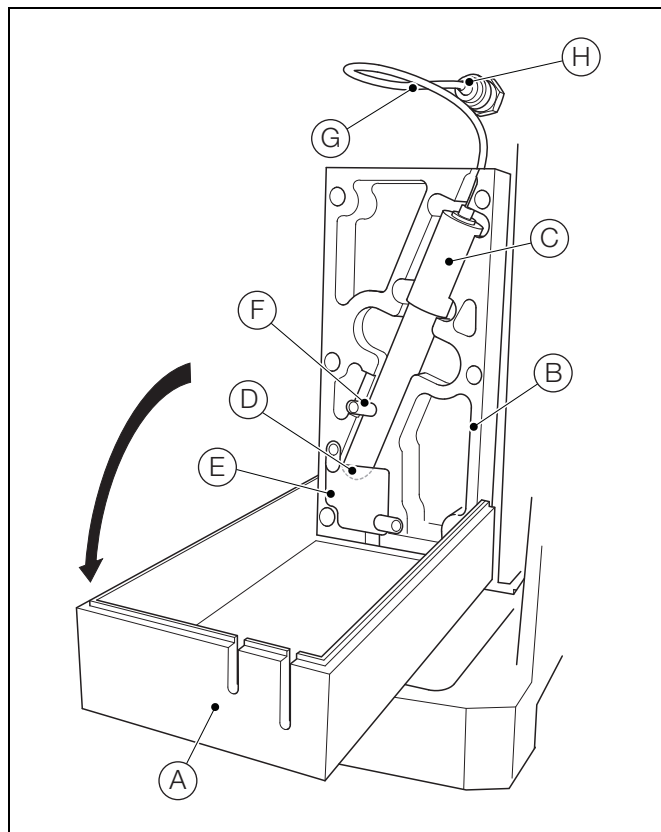

Fig. 3.13 Fitting Ammonia / Fluoride Probe
- When using the analyzer to measure ammonia samples with concentrations typically above 300 ppm, it is strongly recommended that a mixer assembly (part number AW621 045) is fitted to ensure adequate mixing of the higher strength reagent solution – see Fig. 3.13, page 21.
Referring to Fig. 3.13, fit the ammonia or fluoride probe as follows: